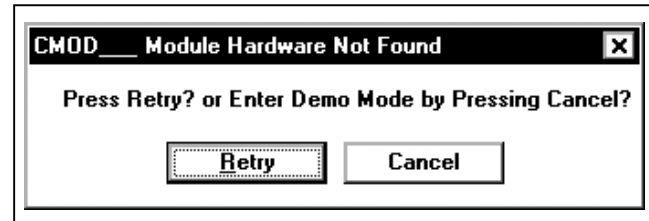

Figure 4. EV Kit Software Warning Message
**Problem 1:** CMOD\_\_\_ Module Hardware Not Found. See Figure 4.